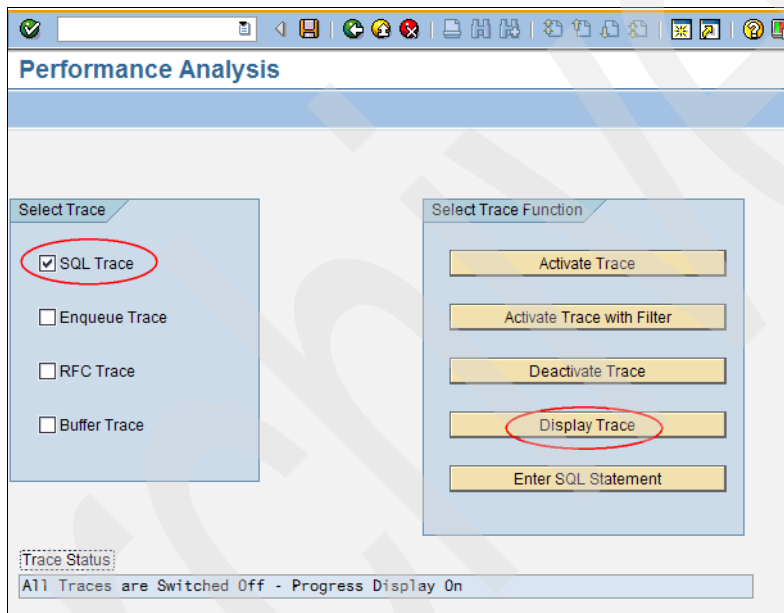

Figure 26-22 Session 2: selection for SQL Trace
1. Select **SQL Trace** for the left check boxes, and then select **Display Trace** in the ST05 screen to change to SQL Trace, as illustrated in Figure 26-22.